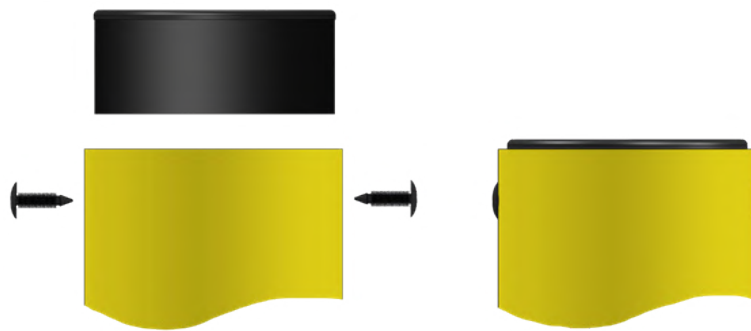
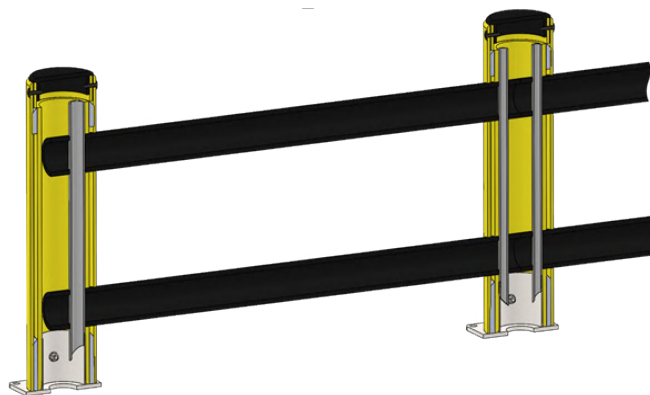

Figure 4. Installation of post caps.
Figure 5. Sectional view of the properly assembled BVC140 barrier section.
4. Cover the tops of the posts with caps (Fig. 4). To reduce friction, it is recommended to lubricate the sides of the caps with a soapy solution. After installing the caps, they must be fixed with screws (2 screws per cap). To do this, drill 7 mm holes with a drill in the post in the plane of the barrier symmetry at a distance of 20mm from the top of the yellow pipe of the post, and hammer the screws into them (the axes of these holes must be oriented in the same direction as the section elements) see Fig. 5).